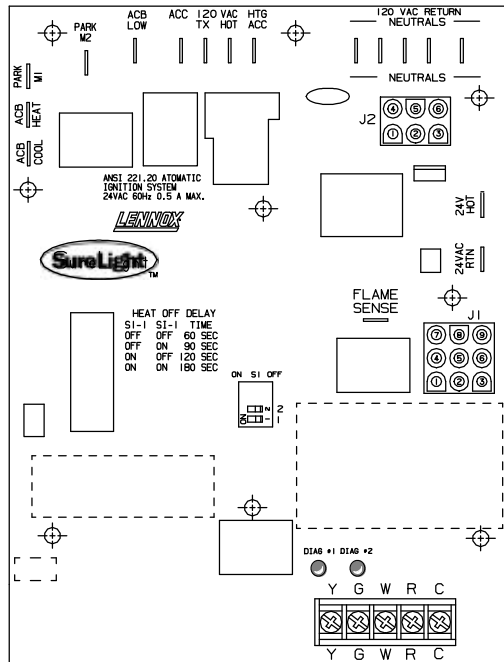

FIGURE 21
All G23(X)-5 and -6 model units are equipped with the Lennox SureLight ignition system. The system consists of ignition control board (figure 21 with control terminal designations in table 5) and ignitor (figures 18, 19 and 20). The board and ignitor work in combination to ensure furnace ignition and ignitor durability. The SureLight integrated board controls all major furnace operations. The board also features two LED lights for troubleshooting and two accessory terminals rated at (4) four amps. See table 6 for troubleshooting diagnostic codes. Table 7 and 8 show jack plug terminal designations. Units equipped with the SureLight board can be used with either electronic or electro-mechanical thermostats without modification. The SureLight ignitor is made of durable silicon-nitride. Ignitor longevity is also enhanced by voltage ramping by the control board. The board finds the lowest ignitor temperature which will successfully light the burner, thus increasing the life of the ignitor.